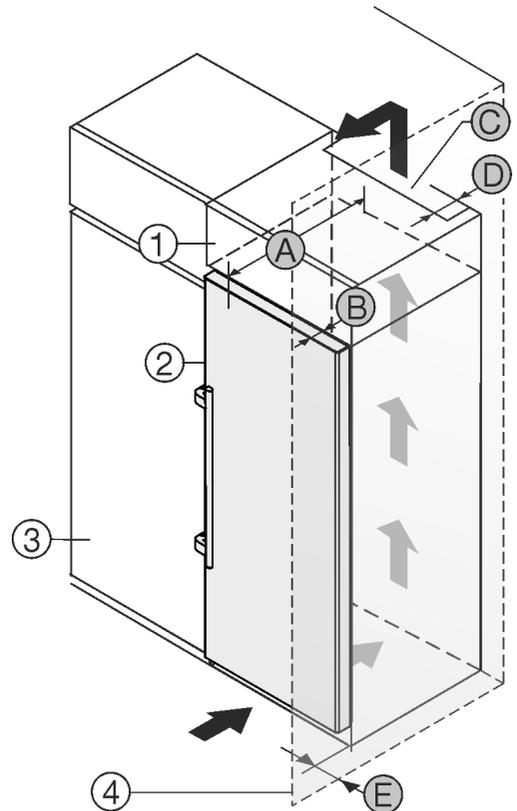

Fig. 8
The appliance can be built into kitchen units. A top cupboard Fig. 8 (2) can be added above the appliance in order to bring the appliance Fig. 8 (1) up to the height of the fitted kitchen units.
The appliance can be installed right next to the kitchen cabinet Fig. 8 (3). The appliance must stick out by the depth Fig. 8 (B) from the front of the cabinet so that the doors can be opened fully. The appliance may protrude further depending on the depth of the kitchen cabinets and whether wall spacers are used.
- There must be a ventilation shaft with the depth Fig. 8 (D) at the back of the top cupboard over the entire width of the cupboard.
- The ventilation shaft Fig. 8 (C) must be observed under the ceiling.
If the appliance is installed with the hinges next to a wall Fig. 8 (4) the distance Fig. 8 (E) between the appliance and the wall must be observed. This is how far the handle protrudes when the door is open.